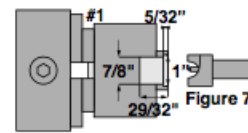

Figure 7
20. See Figure 7. Mount Mill Head using tenon #1.